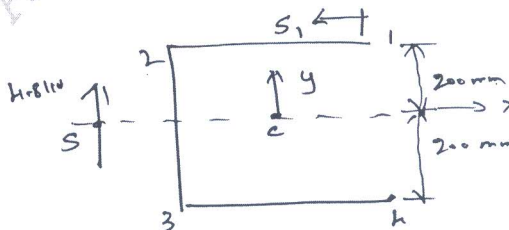

Fig.Q4
- 4 Calculate the shear flow distribution in the channel section shown in Fig.Q4 produced by a vertical shear load of 4.8kN acting through its shear centre. Assume that the walls of the section are effective in resisting only shear stresses. While the booms, each of area 300mm² carry all the direct stress.